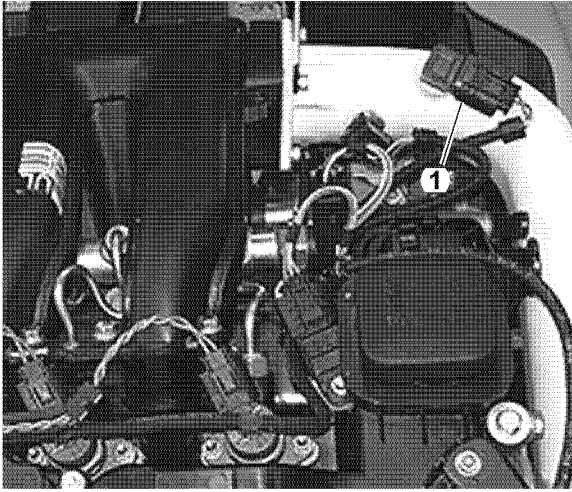

Figure 12-25
2. Disconnect electrical connector (1, **Figure 12-25**).